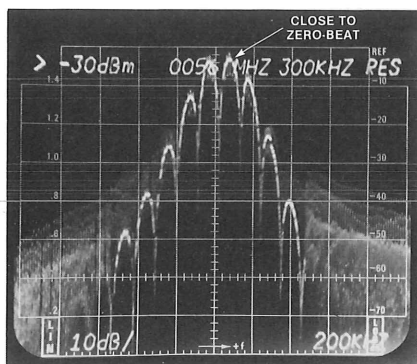

Figure 4-2. Frequency measurement.
5. Carefully adjust the frequency of the signal generator so the CW signal and the carrier slide together. A zero-beat pattern will be noted just as they cross over one another. (See figure 4-2). If necessary, rock the generator's amplitude slightly to maximize the depth of the null.